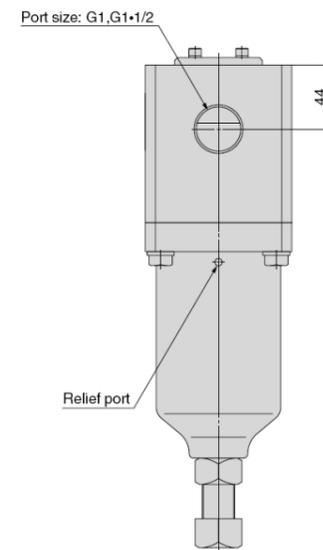

Figure 3
- Air will be released from the relief/vent ports when the 'OUT' port pressure is above the set point. Ensure that the air jet, volume of air and noise does not cause a hazard. See Figure 3